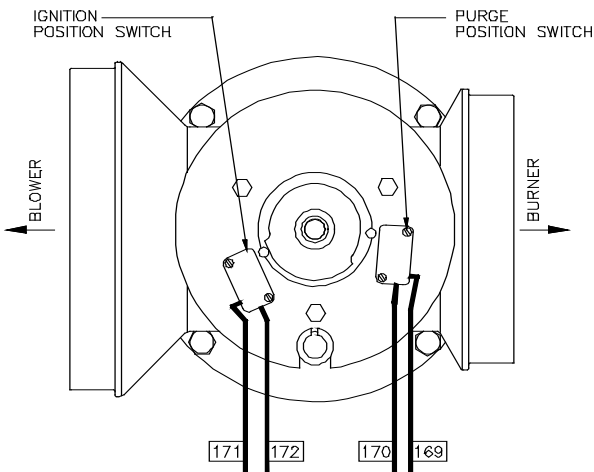

Figure 6.8
9. Disconnect wire #172 from the air/fuel valve purge position switch. This is the switch closest to the blower (See Fig. 6.8).
14. Disconnect wire #170 from the ignition position switch. This is the switch closest to the blower of the unit (See Fig. 6.8).